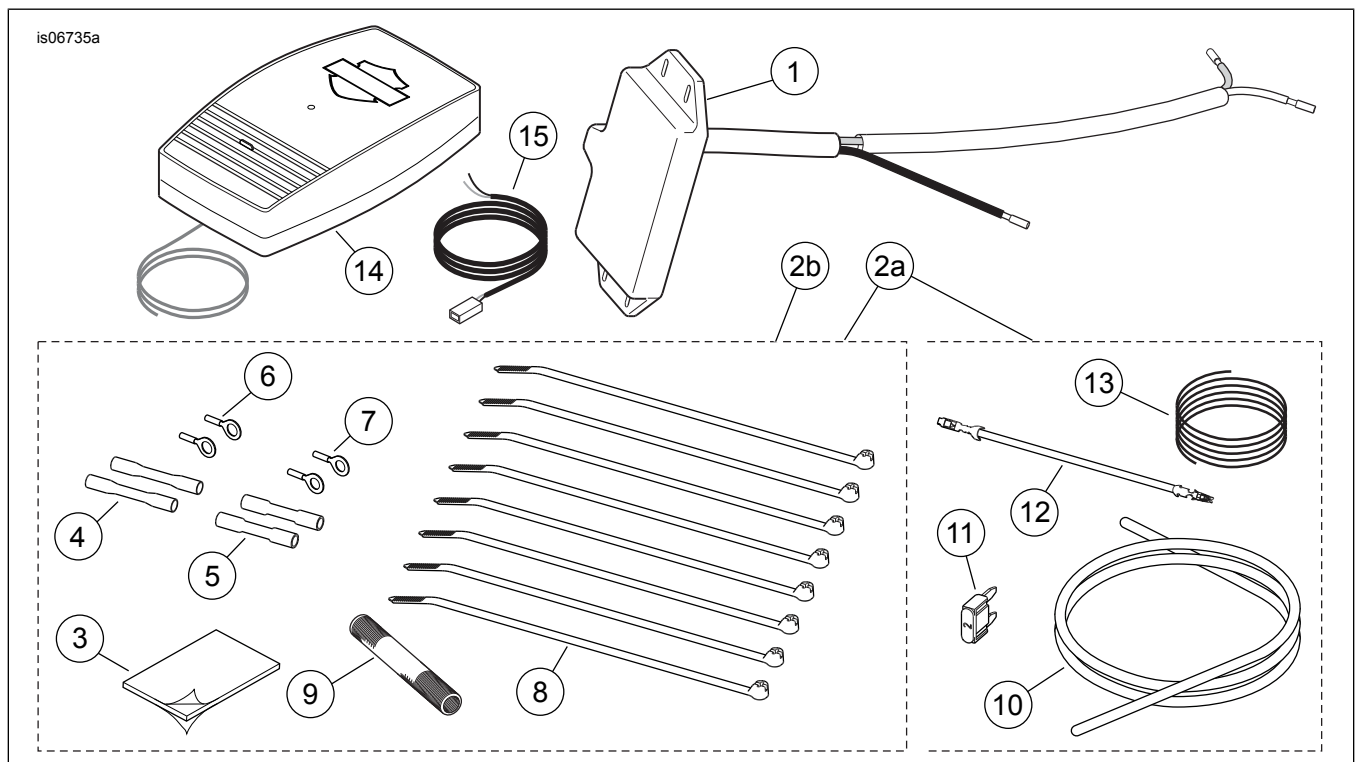

Figure 34. Service Parts, Remote Control Garage Door Opener Kits
4. See Figure 22. The "one into one" splice configuration. Get a **blue** sealed splice connector (see Figure 34, Item 5) from the kit. Splice the white transmitter wire to the white headlamp wires.
3. Slide the woven wire conduit (9) from the kit over the white transmitter wires.
- See Figure 22. The "one into one" splice configuration. Get a **blue** sealed splice connector (see Figure 34, Item 5) from the kit. Splice the white transmitter wire to the white headlamp wires.
- See Figure 34. Slide the woven wire conduit (9) from the kit over the white transmitter wire.
- See Figure 22. The "one into one" splice configuration. Get a blue sealed splice connector (see Figure 34, Item 5) from the kit. Splice the white transmitter wire to the blue/white headlamp wires.
- See Figure 34. Slide the woven wire conduit (9) from the kit over the white transmitter wires.